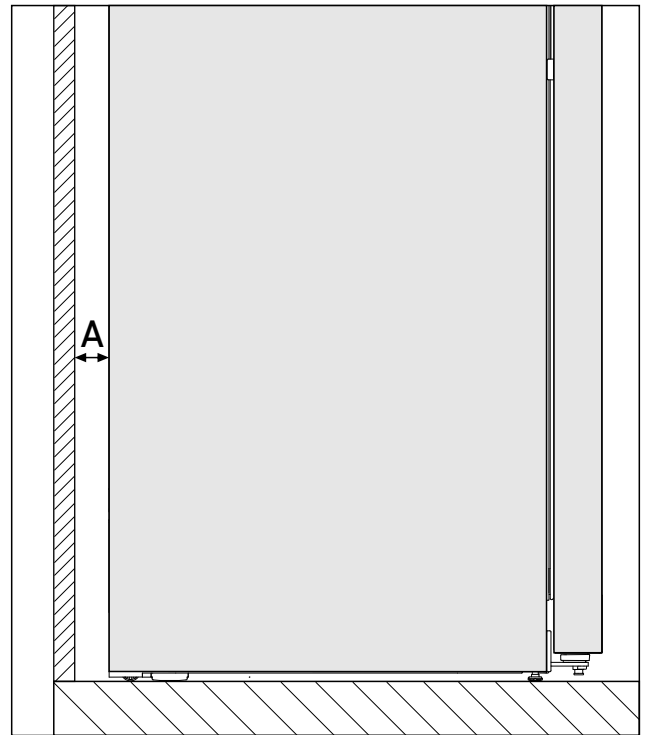

Fig. 2\*
The energy consumption has been determined with a gap of Fig. 2 (A) between the rear of the appliance and the wall. If the wall gap is less than Fig. 2 (A), this does not affect the appliance's operability but the energy consumption does increase slightly at a smaller wall gap.